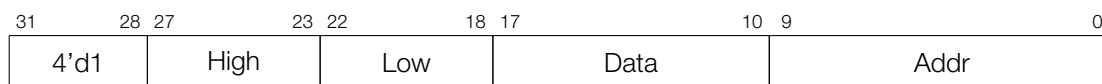

Figure 30-18. Instruction Type — REG\_WR
**Operand**    **Description** - see Figure 30-18